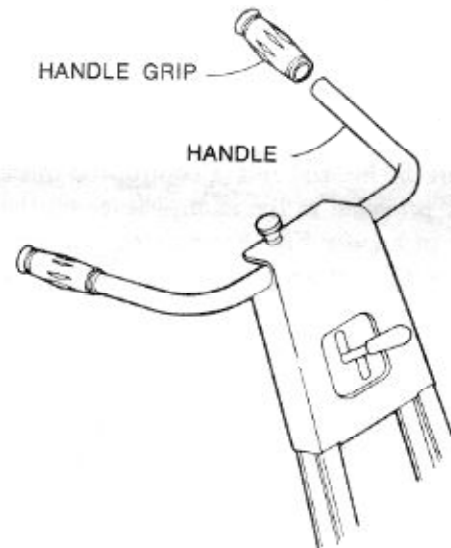

FIG. 11
10. Slide handle grips* onto the handle, Fig. 11. If grips will not slip on completely, tap end of grip with a block of wood and hammer until grip is all the way on.